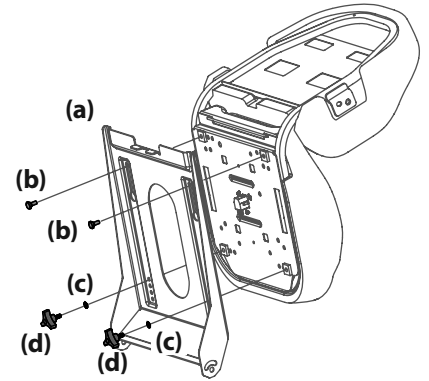

Figure 4
- For a Knob Adjust seat insert bolts (b) in the rear holes and lock washer (c) and knobs (d) in the front. Tighten securely. See Figure 4.